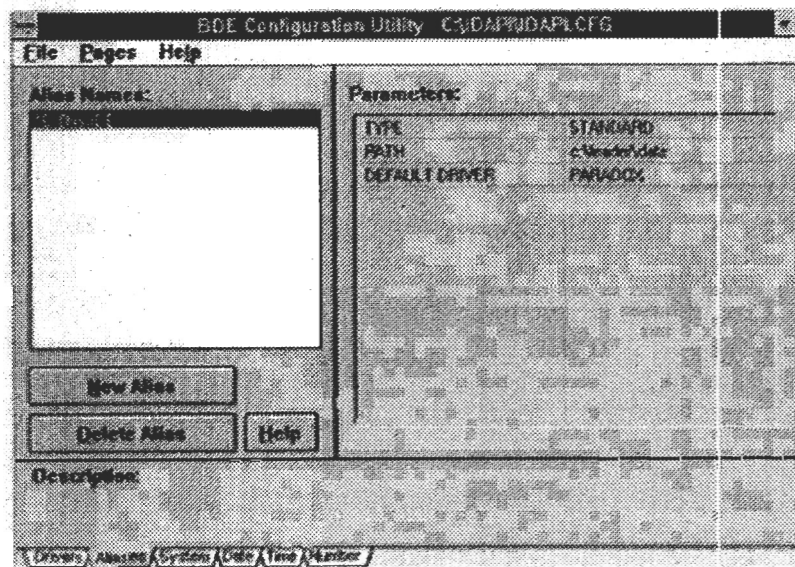

Figure 4-1
- ⑦ The "BDE environment setup utility" window opens. Select the "Alias" tab. Click "New alias (N)" to open the "Add new alias" dialog. Write "1610hostDB" in en-size characters in the "New alias (N)" text box, then click the OK (O) button. Check that alias name "1610hostDB" is selected, then write "c:¥leader¥Data" in the PATH parameter field (Figure 4-1).
- ⑦ The "BDE environment setup utility" window opens. Select the "Alias" tab. Click "New alias (N)" to open the "Add new alias" dialog. Write "1610hostDB" in en-size characters in the "New alias (N)" text box, then click the OK (O) button. Check that alias name "1610hostDB" is selected, then write "c :¥leader¥Data" in the PATH parameter field (Figure 4-1).